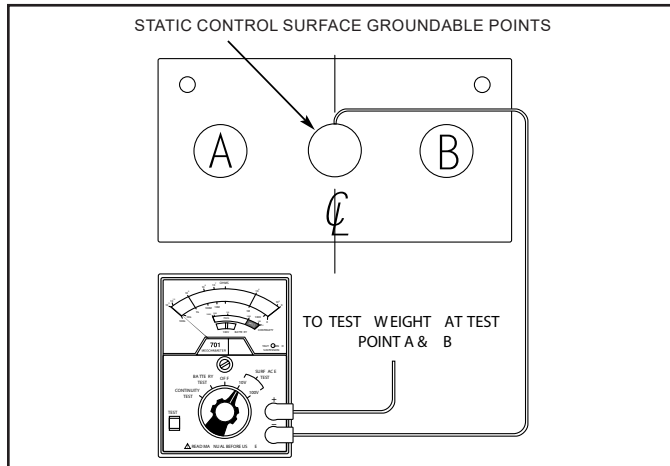

Figure 8. Material evaluation surface to surface test
- E. Surface-to-surface Test: Test samples as shown in Figure 8 use both test weights and repeat the same test procedure used to determine (RTS-GP).